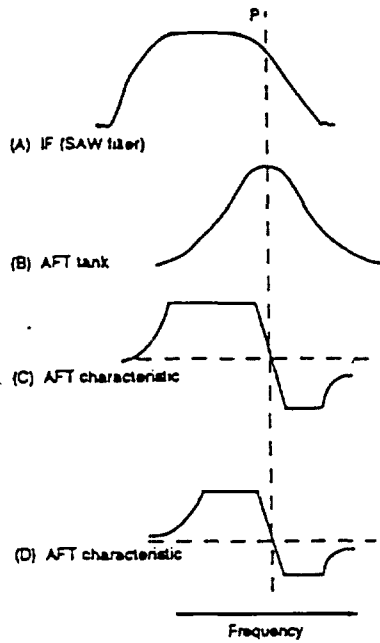
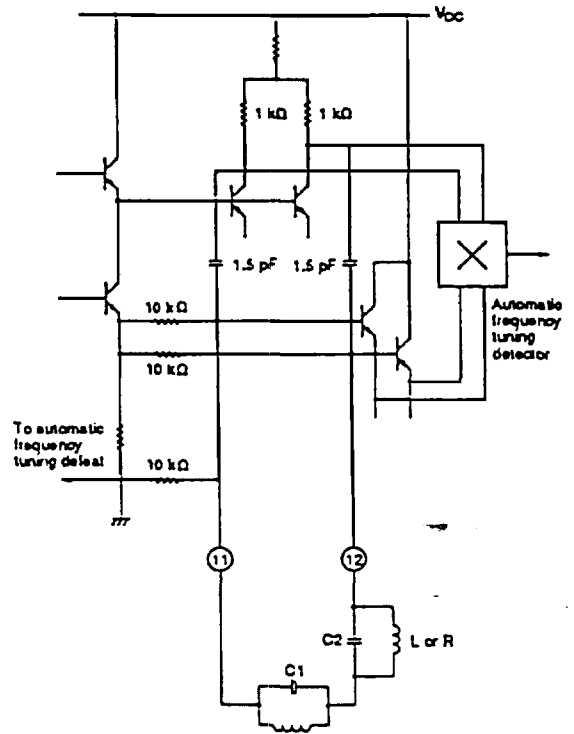

Figure 17. Tank circuit response characteristics
Figure 18. AFT tank
The automatic frequency tuning (AFT) tank connected to AFT1 and AFT2 generates the 90-degree phase shift required for quadrature detection. The bandpass frequency characteristics of the IF SAW filter and the AFT tank are shown in figures 17(A) and 17(B), respectively. The combined response is shown in figure 17(C). The resulting extended low-frequency response, which increases susceptibility to incorrect operation, can be reduced by connecting a capacitor, C2, in series with the AFT tank as shown in figure 18. The resultant frequency response is shown in figure 17(D).